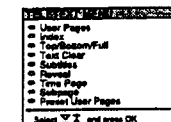

Fig. 40
- 1 Press **MENU**. The menu will be superimposed on the teletext display. (See Fig. 40.)